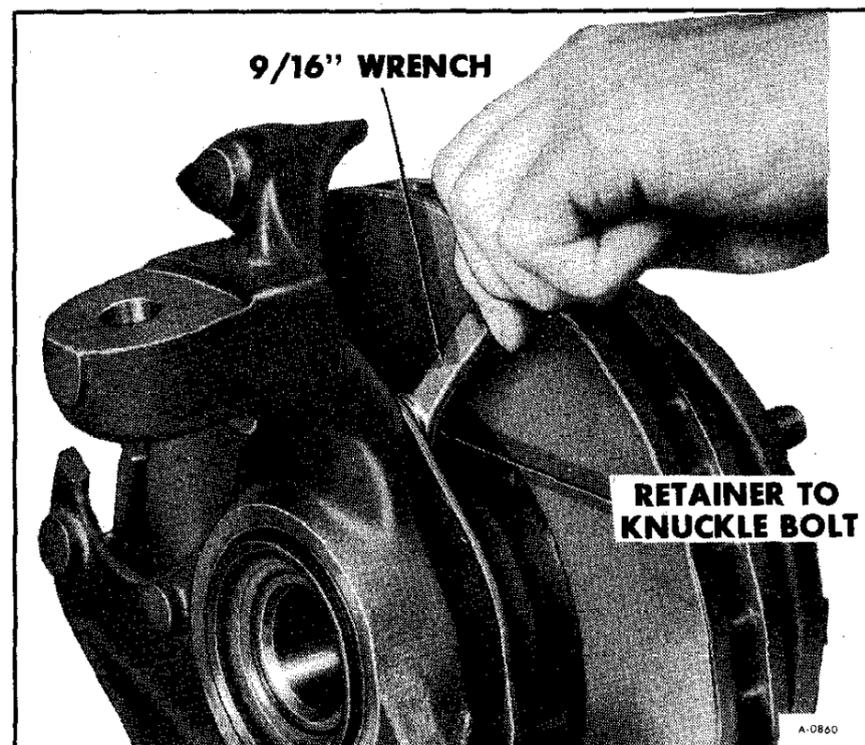
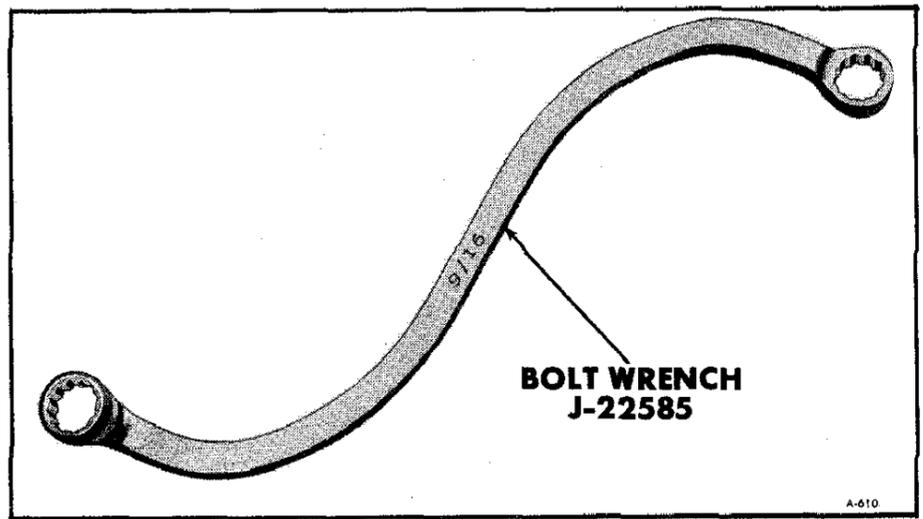

Figure 4—Retainer Bolt Removal
Figure 5—Front Hub Retainer Bolt Wrench J-22585
8. Loosen uniformly and remove the three bolts securing the retainer to the knuckle (figure 4). Removal of these bolts may be expedited by the use of special Bolt Wrench J-22585 (figure 5).